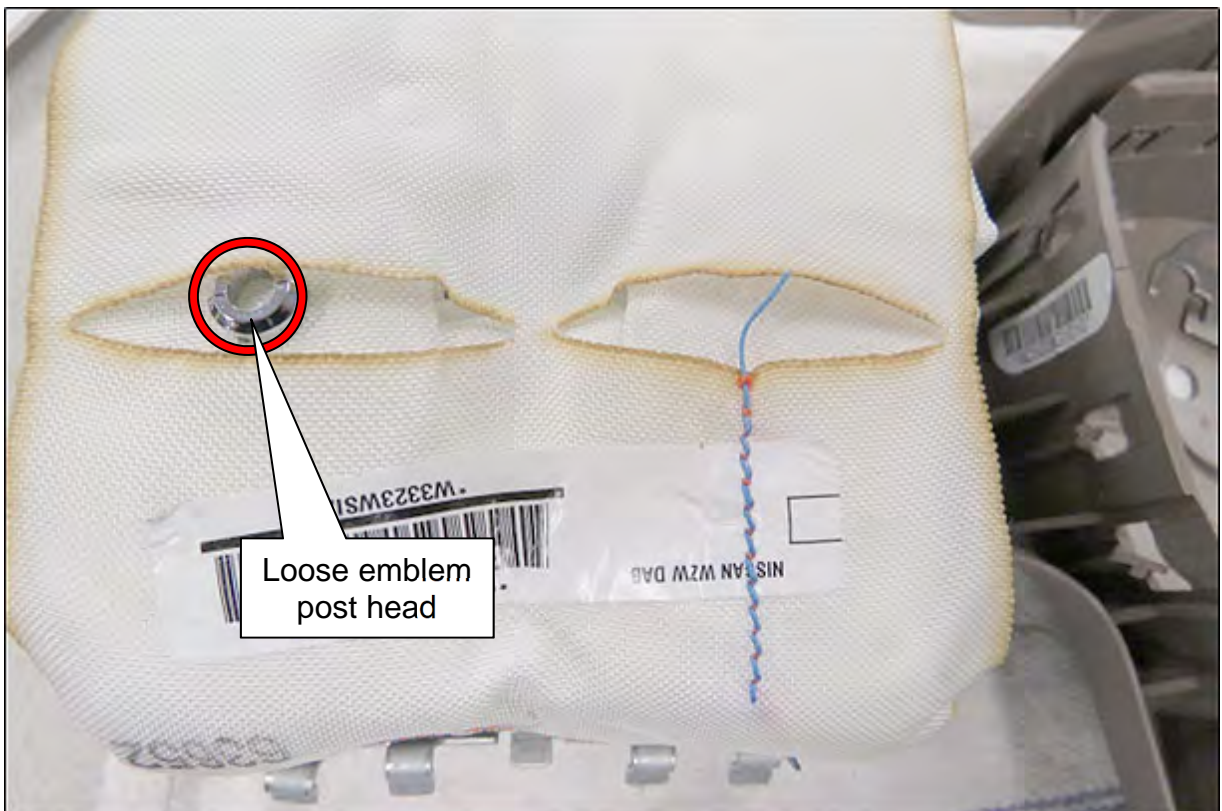

Figure 21
21. Locate the Air Bag Cover emblem's metal clip and post heads shown in Figure 19, and if found to be loose (Figure 20 and Figure 21) remove all loose components.